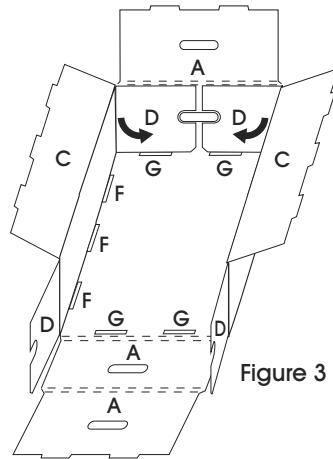

Figure 3
3. On one side, fold side flaps (D) over slots (G). (See Figure 3)